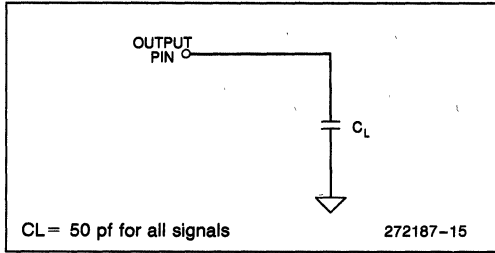
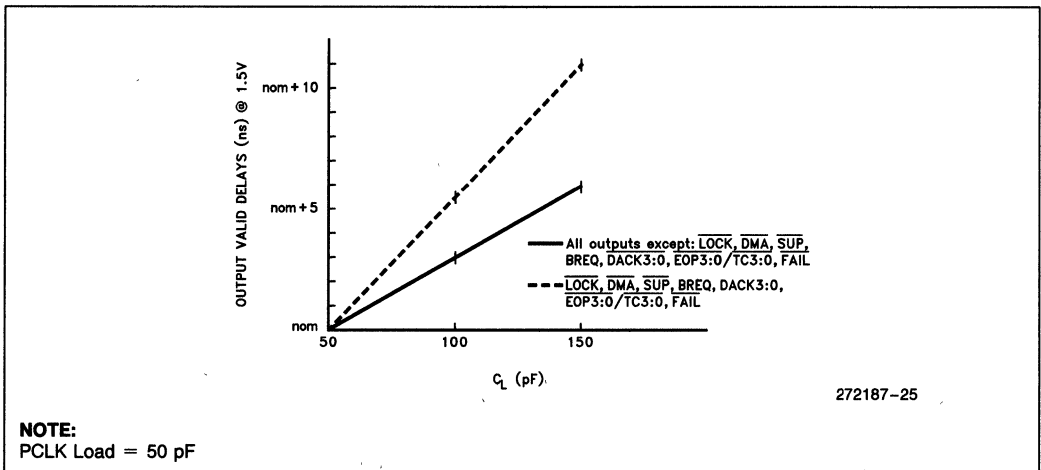
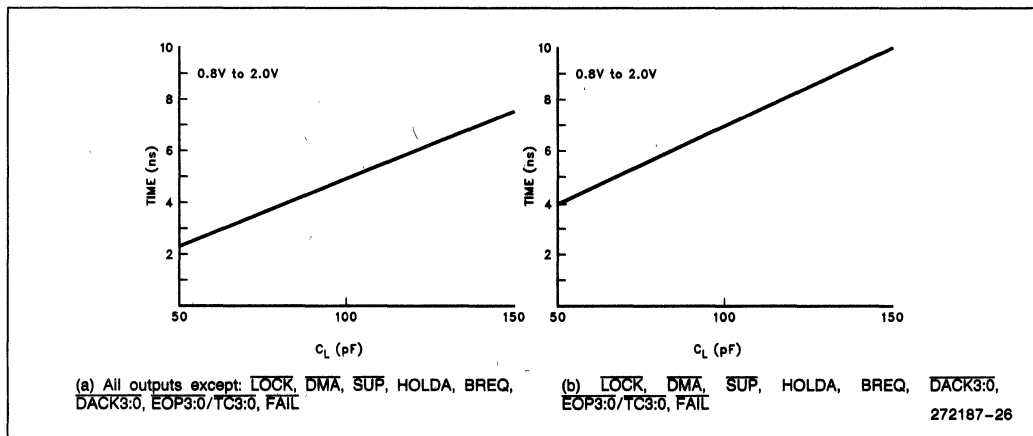

Figure 15. AC Test Load
Figure 22. Output Delay or Hold vs Load Capacitance
Figure 23. Rise and Fall Time Derating at Highest Operating Temperature and Minimum V_{CC}
- (1) See **Section 4.5.2, AC Timing Waveforms** for waveforms and definitions.
- (2) See Figure 22 for capacitive derating information for output delays and hold times.
- (3) See Figure 23 for capacitive derating information for rise and fall times.
- (4) Where N is the number of \overline{NRAD} , \overline{NRDD} , \overline{NWAD} , or \overline{NWDD} wait states that are programmed in the Bus Controller Region Table. When there are no wait states in an access, WAIT never goes active.
- (5) N = Number of wait state inserted with \overline{READY} .
- (6) Output Data and/or DT/R may be driven indefinitely following a cycle if there is no subsequent bus activity.
- (7) See Notes 1, 2 and 3.
- (8) Since asynchronous inputs are synchronized internally by the 80960CF they have no required setup or hold times in order to be recognized and for proper operation. However, to guarantee recognition of the input at a particular edge of PCLK2:1 the setup times shown must be met. Asynchronous inputs must be active for at least two consecutive PCLK2:1 rising edges to be seen by the processor.
- (9) These specifications are guaranteed by the processor.
- (10) These specifications must be met by the system for proper operation of the processor.
- (11) This timing is dependent upon the loading of PCLK2:1. Use the derating curves of Figure 22 to adjust the timing for PCLK2:1 loading.
- (12) In the 1-x input clock mode, the maximum input clock period is limited to 125 ns while the processor is operating. When the processor is in reset, the input clock may stop even in 1-x mode.
- (13) When in the 1-x input clock mode, these specifications assume a stable input clock with a period variation of less than $\pm 0.1\%$ between adjacent cycles.
The AC Specifications in Section 4.5 are tested with the 50 pf load shown in Figure 15. See Figure 22 to see how timings vary with load capacitance.